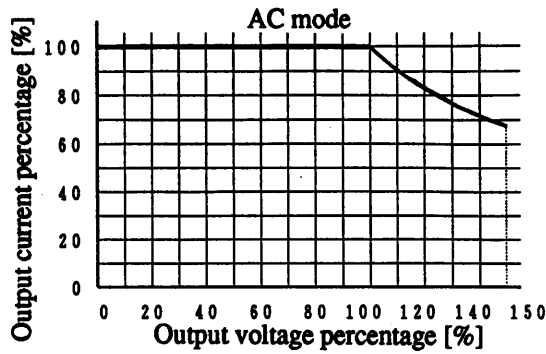

Fig. 1
When output voltage is 100 to 150 V/200 to 300 V (in AC mode) or 100 to 212 V/200 to 424 V (in DC mode), the output current is reduced by the output voltage. Figs. 1 and 2
- Based on Figs. 1 and 3, the rated output current is the product of both output current percentages shown. Also, the output current percentage in Fig. 4 takes priority if the value obtained based on Fig. 4 is smaller than the product obtained from Figs. 1 and 3. (This applies only in the AC mode.)